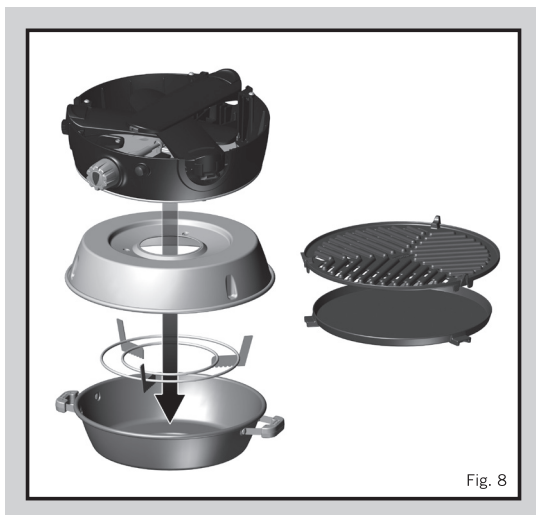

Fig. 8
- To pack away, let the unit cool. After cleaning, Fold the appliance as described in section 3 above. Place the pot / dome at the bottom of the bag. Next, place the pot stand upside down into the pot. Place the Fat Pan over the Pot and Pot Stand upside down. Then place the appliance upside down over the fat pan. Place the Grid and Flat Pan into their separate holders located in the lid of the bag, and zip them closed. Fold over the lid of the bag, and zip it closed. (Fig 8)